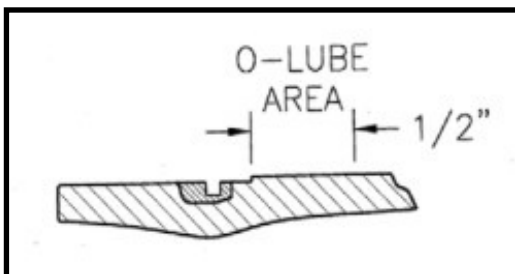

Figure 3
1. Work O-ring lubricant into shell area behind the retaining ring groove and approximately  $\frac{1}{2}$ " into the vessel I.D. (See figure 3).